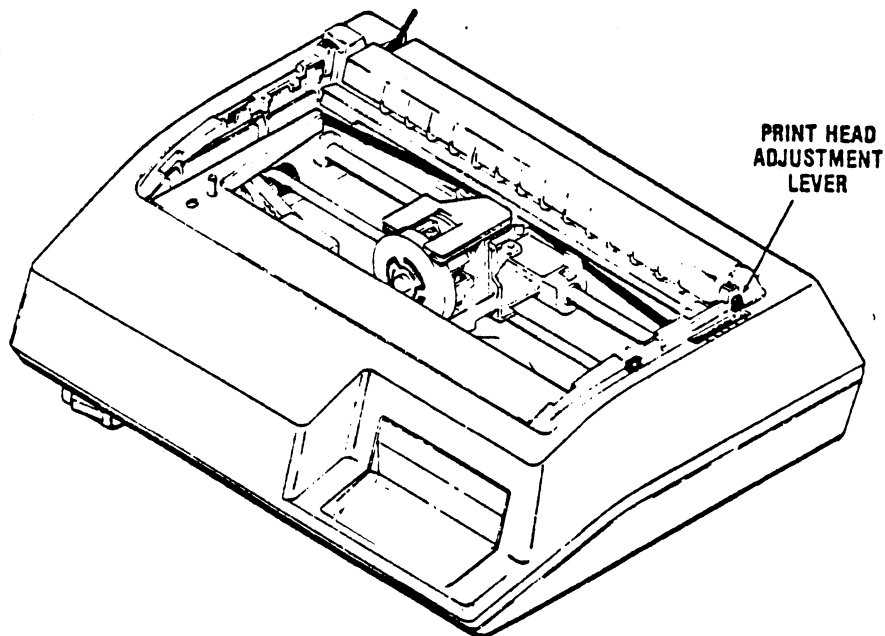

Figure 10-1 Print Head Impression Adjustment
2. While manually moving the print head from side to side move the head adjustment lever (see Figure 10-1) in or out until the smudging occurs or paper rippling occurs, then, move the head adjustment lever back one position.